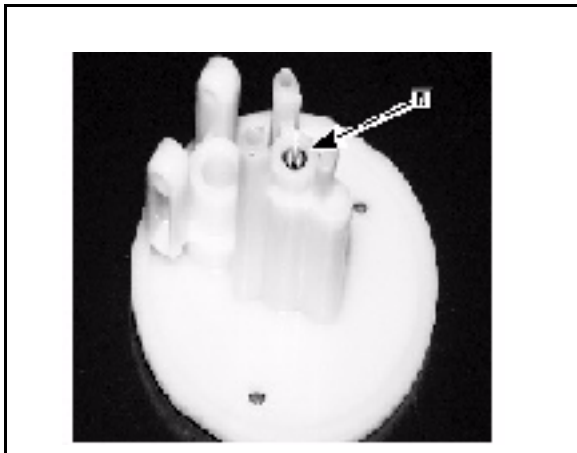

Fig. 135
- Press down on the main jet ([N] Fig. 135) to remove it from the float base tube.